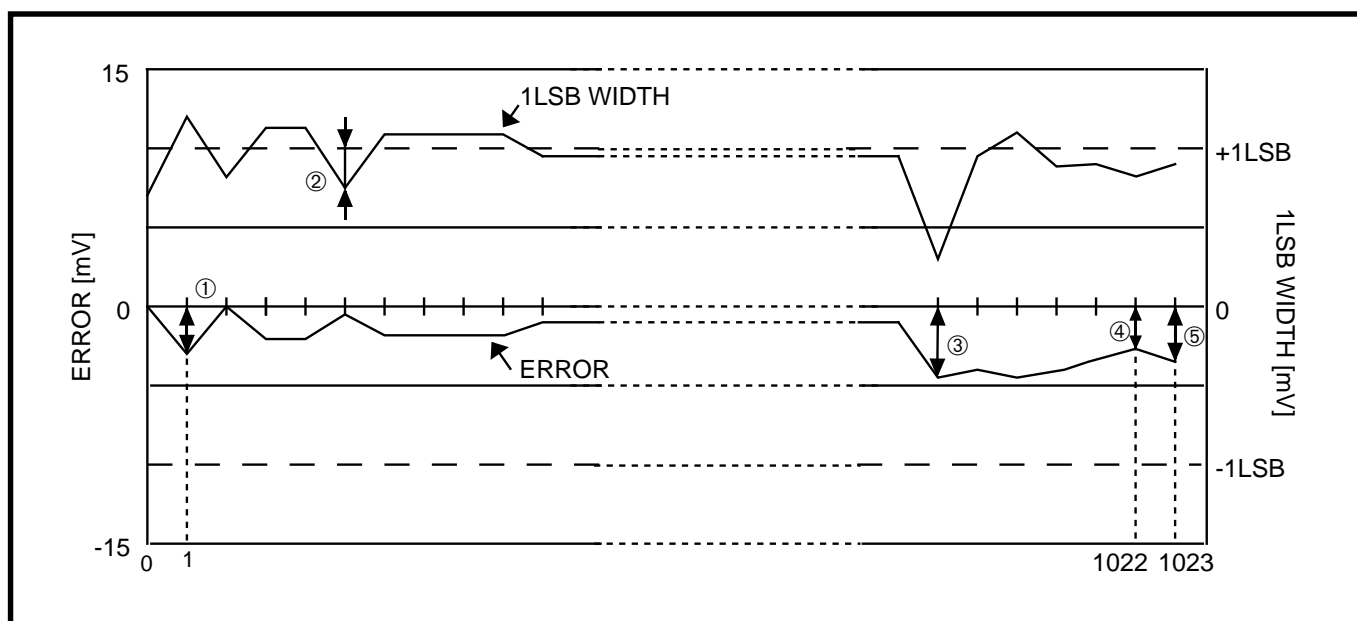

Fig. 3.2.1 A/D conversion characteristics data
Figure 3.2.1 shows the A/D accuracy measurement data.
- (1) Non-linearity error This means a deviation from the ideal characteristics between V_0 to V_{1022} of actual A/D conversion characteristics. In Figure 3.2.1, it is $(④-①)/1\text{LSB}$.
- (2) Differential non-linearity error This means a deviation from the ideal characteristics between the input voltages V_0 to V_{1022} necessary to change the output data to "1." In Figure 3.2.1, this is $②/1\text{LSB}$.
- (3) Zero transition error This means a deviation from the ideal characteristics between the input voltages 0 to V_{DD} when the output data changes from "0" to "1." In Figure 3.2.1, this is the value of ①.
- (4) Full-scale transition error This means a deviation from the ideal characteristics between the input voltages 0 to V_{DD} when the output data changes from "1022" to "1023." In Figure 3.2.1, this is the value of ⑤.
- (5) Absolute accuracy This means a deviation from the ideal characteristics between 0 to V_{DD} of actual A/D conversion characteristics. In Figure 3.2.1, this is the value of ERROR in each of ①, ③, ④ and ⑤.